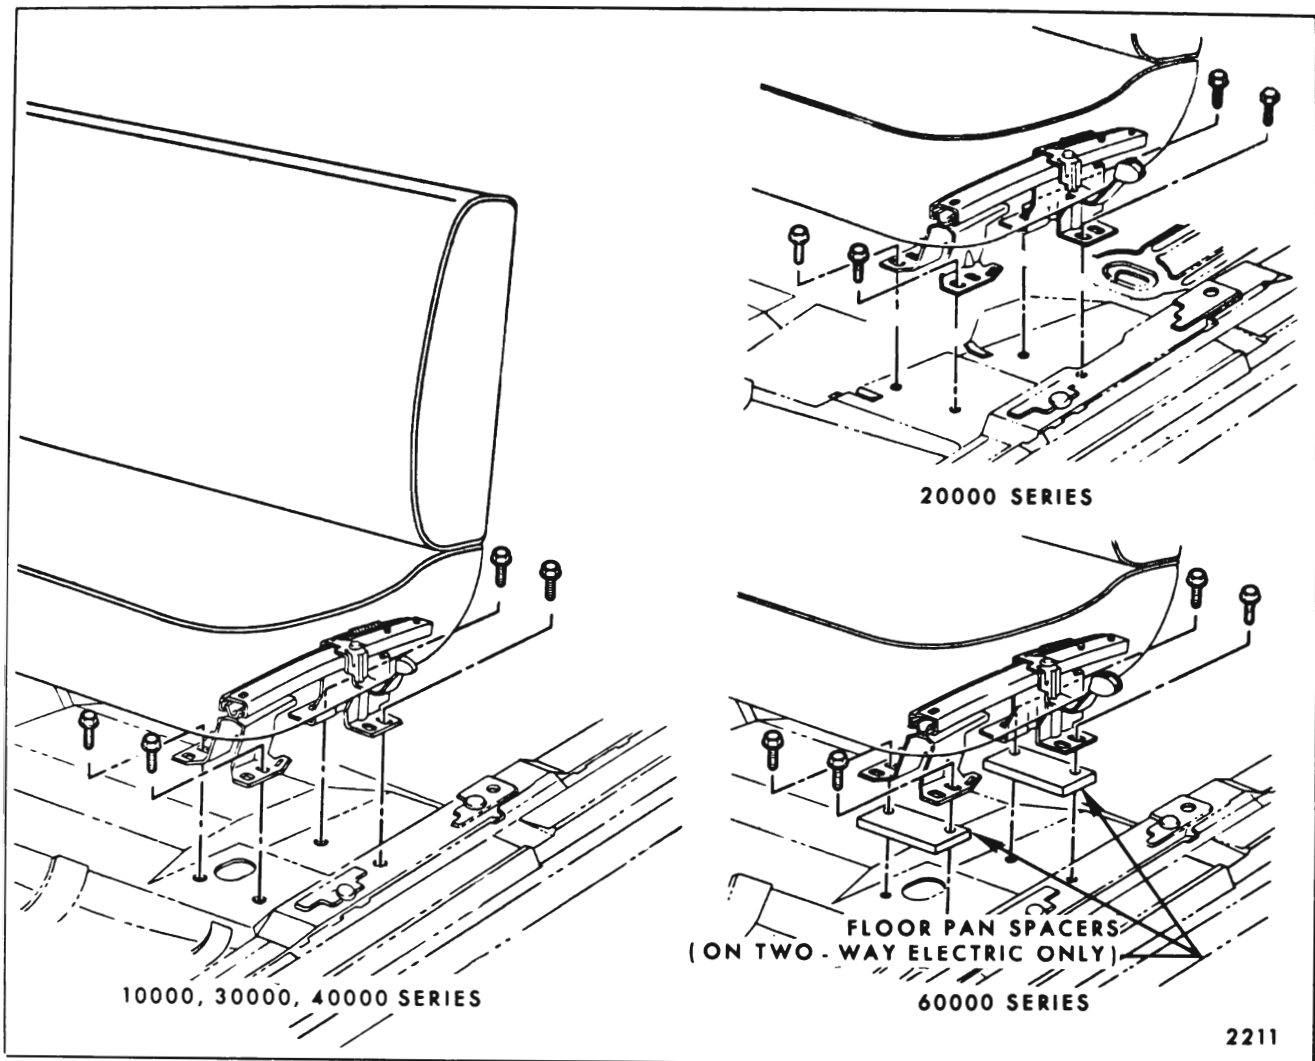

Fig. 15-2—Seat Adjuster Floor Pan Attachment - "B & C" Full Width Seat
4. At rear of adjusters, remove adjuster-to-floor pan rear attaching nuts or bolts (Fig. 15-1 and Fig. 15-2).
Remove adjuster-to-floor pan front attaching bolts (Fig. 15-2). Tilt seat assembly rearward sufficiently to disconnect seat harness feed connector and detach harness from clip on floor pan. On styles with seat back cigar lighter, seat back courtesy lamps or seat back vanity lamp disconnect electrical feed wire or wires. With aid of a helper remove seat assembly from body.